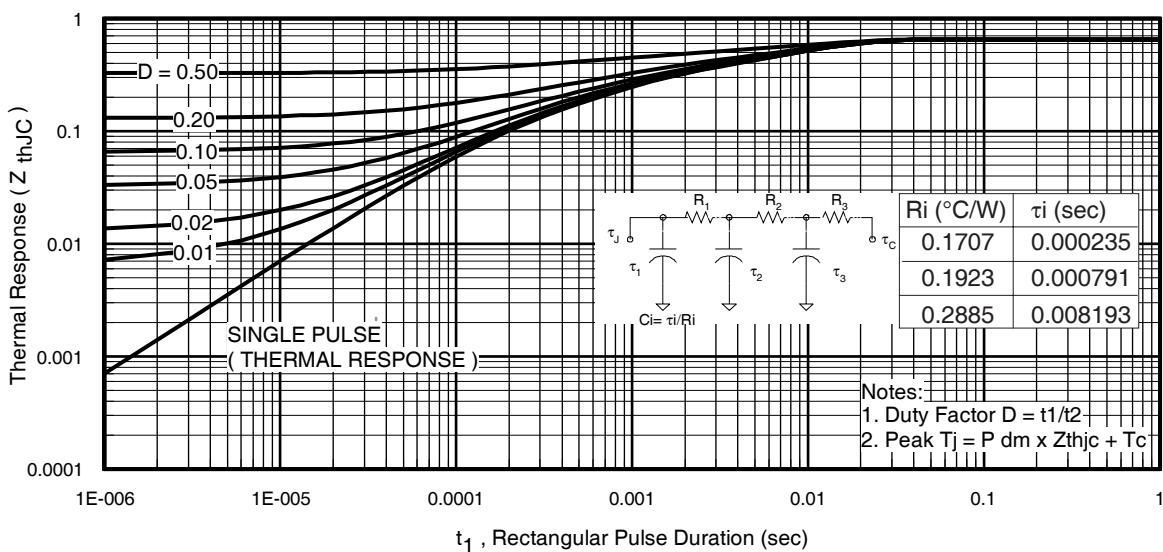
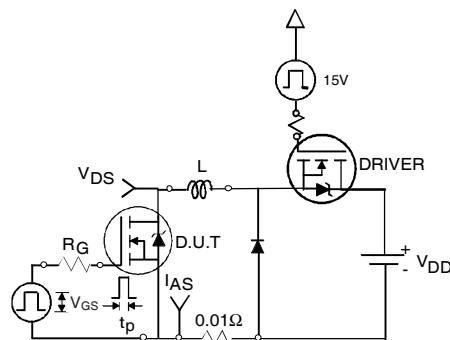

Fig 11. Maximum Effective Transient Thermal Impedance, Junction-to-Case
Fig 12a. Unclamped Inductive Test Circuit
- ① Repetitive rating; pulse width limited by max. junction temperature. (See fig. 11).
- ② Limited by T_{Jmax} , starting $T_J = 25^\circ\text{C}$, $L=0.064\text{mH}$, $R_G = 25\Omega$, $I_{\text{AS}} = 88\text{A}$, $V_{\text{GS}} = 10\text{V}$. Part not recommended for use above this value.
- ③ Pulse width $\leq 1.0\text{ms}$; duty cycle $\leq 2\%$.
- ④ $C_{\text{oss eff.}}$ is a fixed capacitance that gives the same charging time as C_{oss} while V_{DS} is rising from 0 to 80% V_{DSS} .
- ⑤ Limited by T_{Jmax} , see Fig.12a, 12b, 15, 16 for typical repetitive avalanche performance.
- ⑥ This value determined from sample failure population. 100% tested to this value in production.
- ⑦ This is applied to D²Pak, when mounted on 1" square PCB (FR-4 or G-10 Material). For recommended footprint and soldering techniques refer to application note #AN-994.
- ⑧ R_θ is measured at T_J of approximately 90°C .
- ⑨ Solder mounted on IMS substrate.
3. Equation below based on circuit and waveforms shown in Figures 12a, 12b.
- $Z_{thJC}(D, t_{av})$ = Transient thermal resistance, see figure 11)